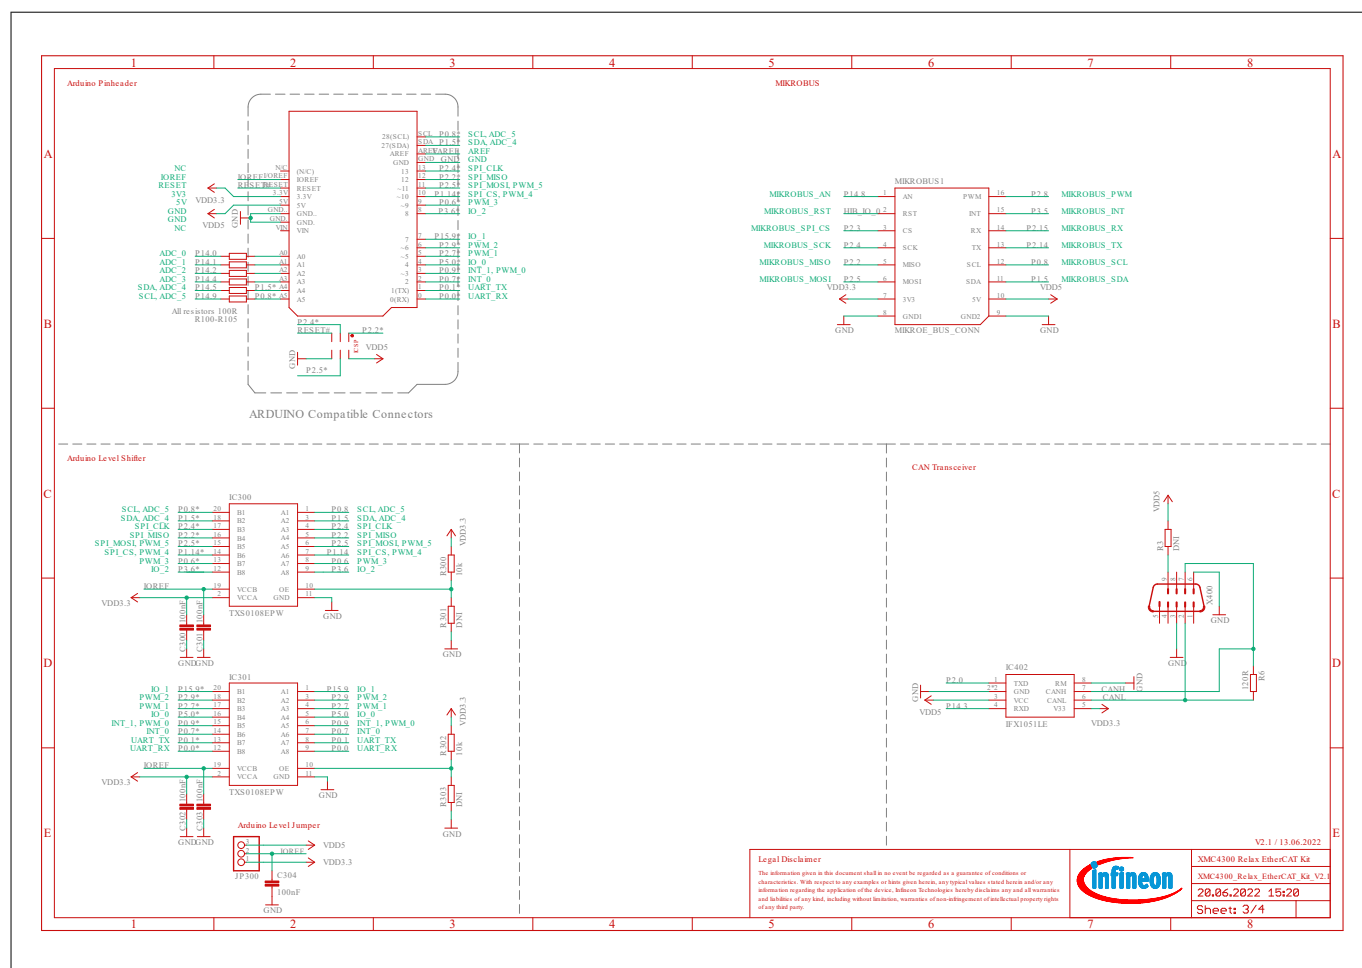

Figure 19 Arduino, mikroBUS, CAN (See Revision 1.2)
- Figure 19 (See Revision 1.2)